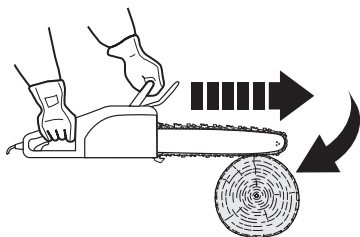

Fig. 26
1. Pinching the saw chain (11) along the bottom of the guide bar (12) may pull the product forward away from the operator (Fig. 26).